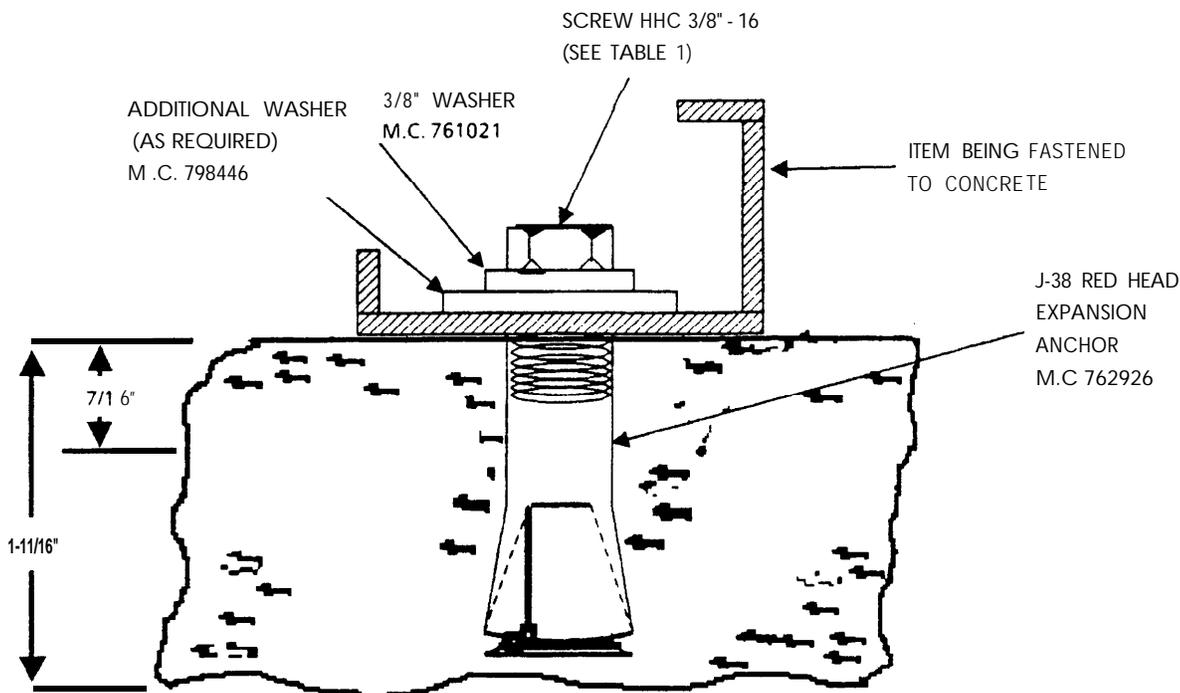

Figure 10. J-38 Red Head (MC-762926) Expansion Anchor Fastening.
- (g) Select a screw that is long enough to secure the equipment to the floor and extend 7/16 inch into the anchor. (See Figure 10 and Table 1.)
- (h) When a predrilled hole in a base angle exceeds the size of the screw head used with the expansion anchor, add a larger washer under the washer normally used (Figure 10).